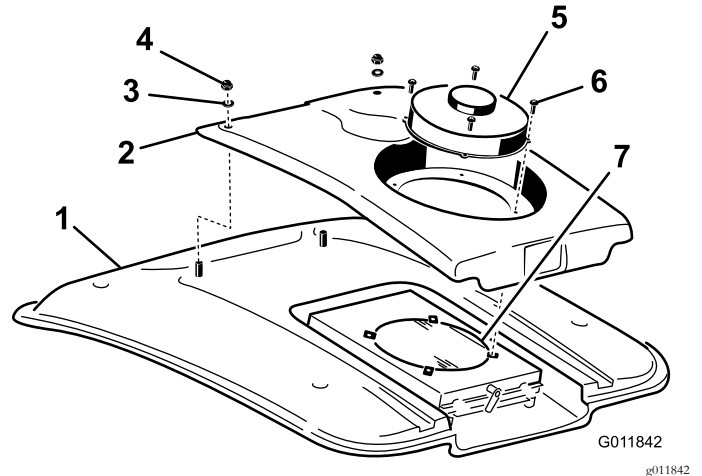

Figure 87
2. Remove the (4) screws securing the fan and the condenser cover to the fan mount (Figure 87).
4. Remove the two nuts and washers securing the front of the condenser cover to the cab roof (Figure 87).
8. Clean the air conditioning condenser thoroughly with compressed air (Figure 87).